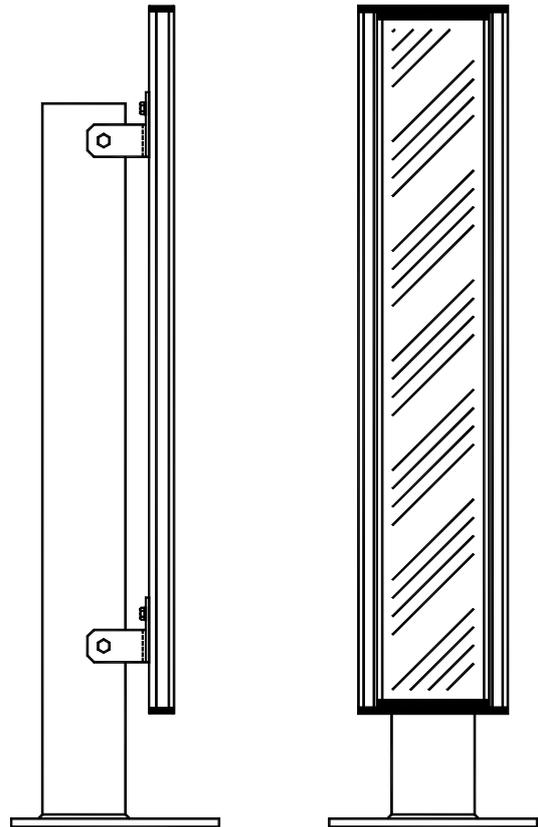
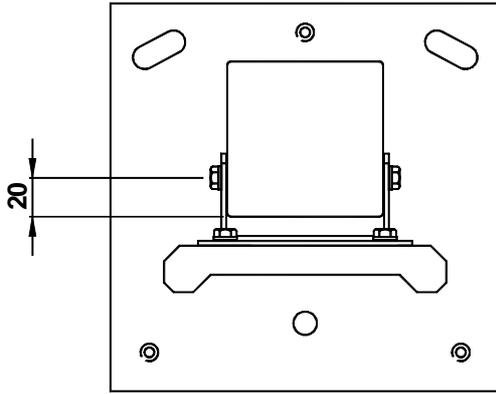

Figure 5
Figure 6
- 1) Secure the two fabricated mirror mounting brackets to each mirror unit using the special sliding nuts, washers and screws provided. See Figure 5 and Figure 6.
- 2) Mark the positions on the side of the floor post where the mirror unit is to be located. See Figure 5 and Figure 6.
- b) Drill holes 5mm diameter through each side face of the floor post and tap M6. Secure the brackets in place with M6 x 15mm screws. See Figure 5 and Figure 6.